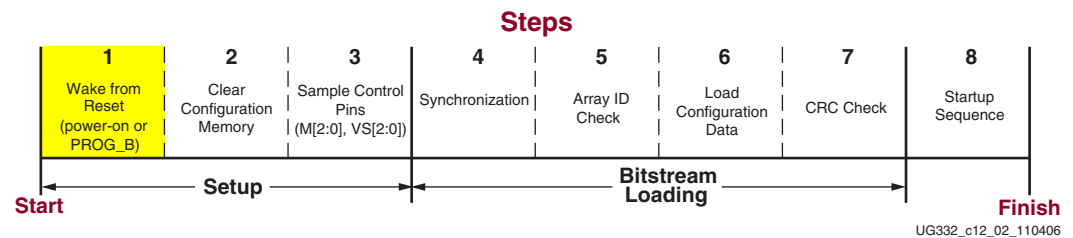

Figure 12-2: FPGA Wake from Reset
1. Hold the **PROG_B** pin Low, which holds the FPGA in reset, Step 1 shown in Figure 12-2, page 239.